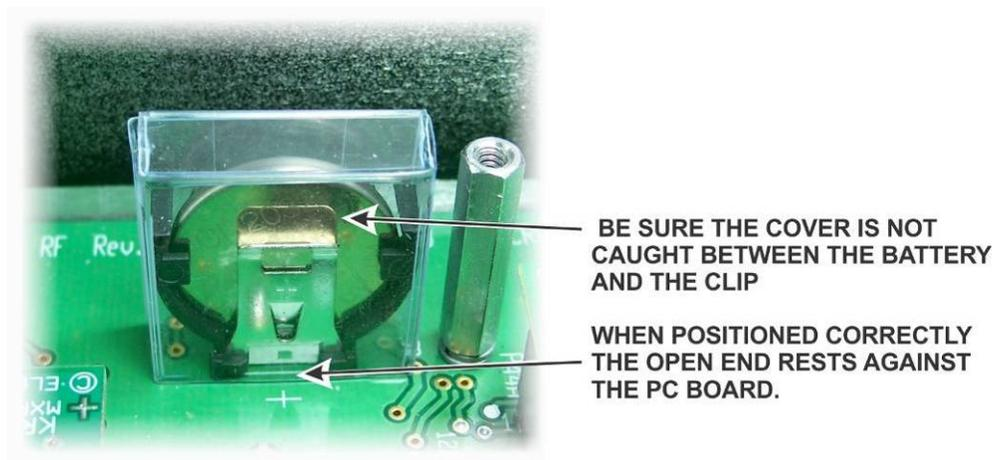

Figure 16. Battery Cover.
- Replace the battery cover. Be sure the cover fits all the way down against the RF board as shown in Figure 16.